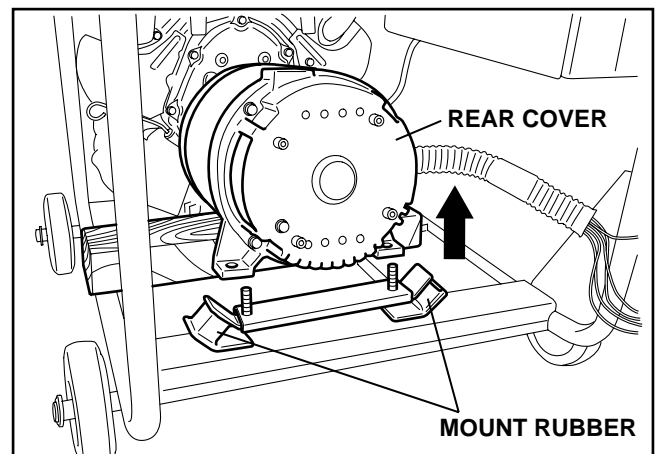

Fig. 9-2
*NOTE : Lift the front cover until completely the rear cover removes from the mount rubber. (See Fig. 9-2)*
- (4) Remove the rear cover.
- (5) Remove the bushing.
- (6) Remove the stator cover.